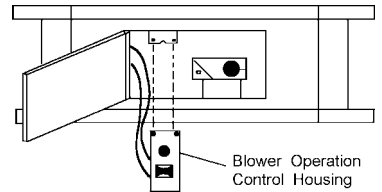

Figure 17-Installing Blower Control Housing
12. Install control knob onto output shaft of operation control housing (see figure 16). Place operation control housing just inside control compartment door in front of stove (see Figure 17).
13. Using two black screws provided in blower kit, mount blower operation control housing to mounting tab in left side of lower control compartment (see Figure 17).